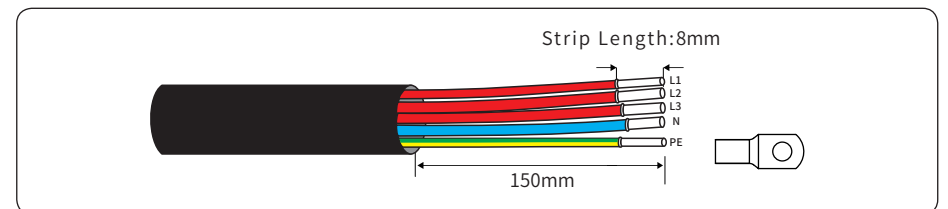

Figure 4-13
1) According to the recommendations in above table to select an appropriate copper cable, strip the insulation sleeve of AC cable off for 150mm, and strip the end of 3L / PE / N wires for 8mm, then put the 5 AC terminals on the stripped metal cores respectively and tighten them with hydraulic clamp, as shown in Figure 4-13: